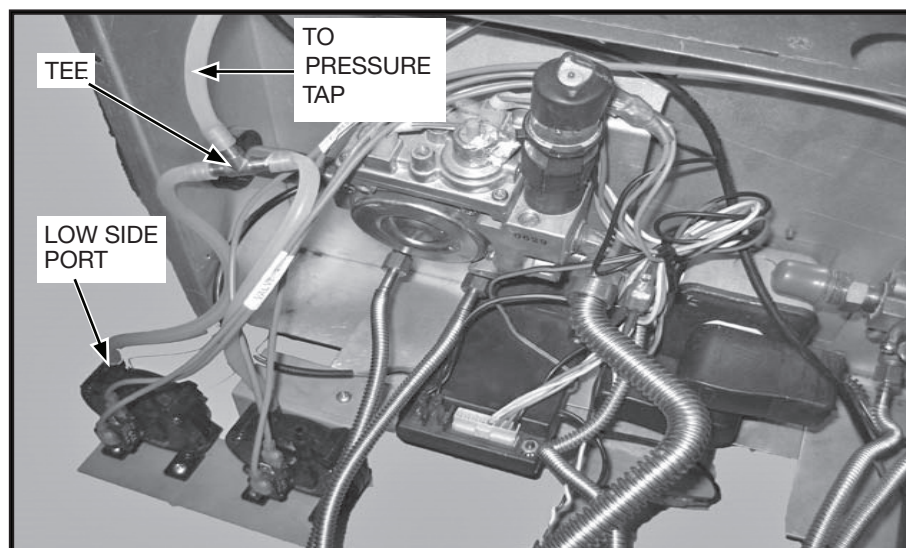

Figure 17: Securing tubes.
12. Attach the silicone tube from the pressure tap to the Tee connected to the low side of the pressure switches and secure using the hose clamps provided (Figure 17).